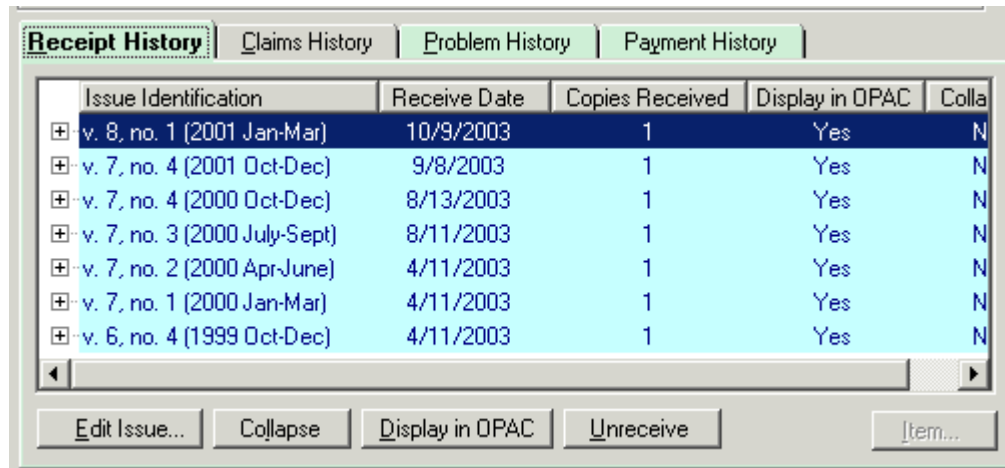

Figure 9-41. Serial issue selected to unreceive
1. From the **Receipt History** tab, select the first-level row(s) of the issue(s) you want to unreceive (see Figure 9-41).